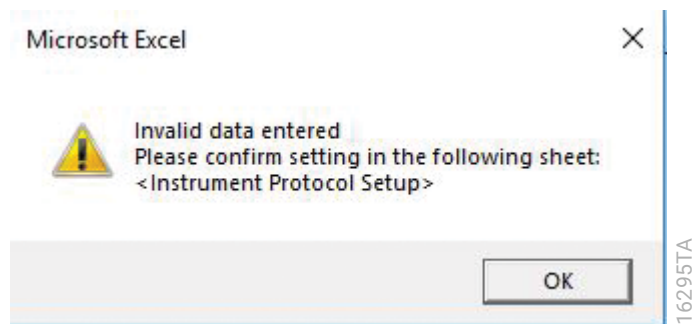

Figure 228. Microsoft® Excel® Invalid Data Entry Error window.
- c. If there are any invalid data errors within the new protocol.xml file being saved, an error window will be displayed (Figure 228).
- c. If there are any invalid data errors within the new protocol.xml file being saved, an error window will be displayed similar to that shown in Figure 228, but specific for basecalling protocols.